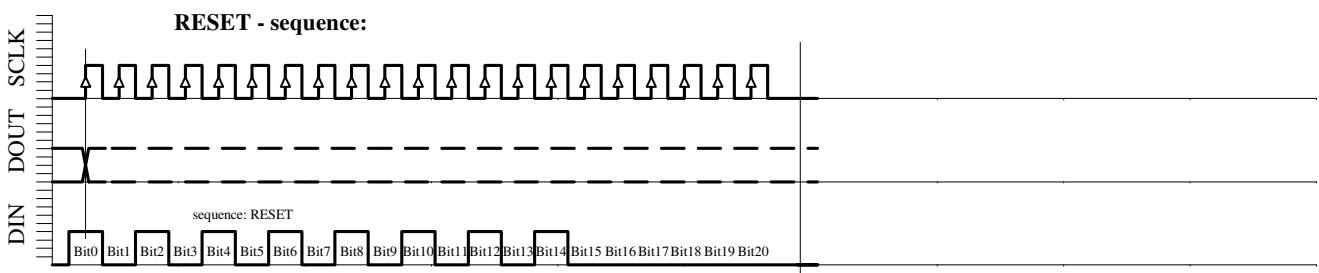

Fig. 6e: RESET sequence (21-Bit).
- RESET sequence (Figure 6e)
The RESET sequence is special as its unique pattern is recognised by the module in any state. By consequence it can be used to restart if synchronisation between the microcontroller and the MS5534B has been lost. This sequence is 21-Bit long. The DOUT signal might change during that sequence (see Fig. 6e). **It is recommended to send the RESET sequence before each CONVERSION sequence to avoid hanging up the protocol permanently in case of electrical interference.**